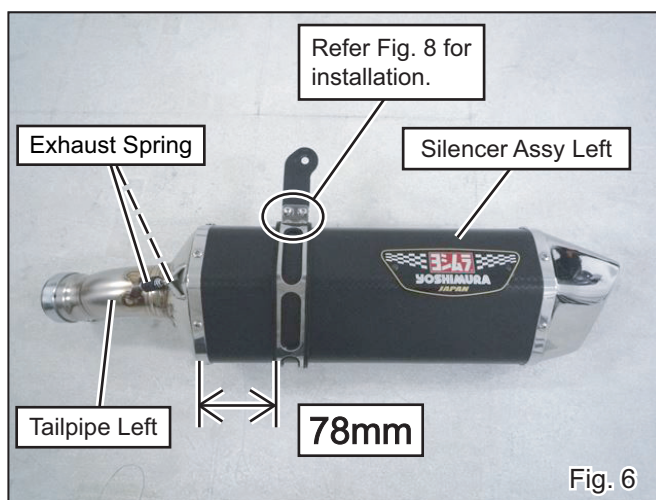

Fig. 6
8) Using components of HEPTA FORCE Slip-On, place Silencer Band Rubber inside Silencer Band and slide them on Silencer Assy Left as the position to be 78mm from front edge (See Fig. 6). Mount Silencer Bracket L#2 with 2 of each Button Bolt M6x15, Washer M6x13, and Flange Nut M6 (See Fig. 6, 7 & 8). Tighten the bolts by hand only at this stage.